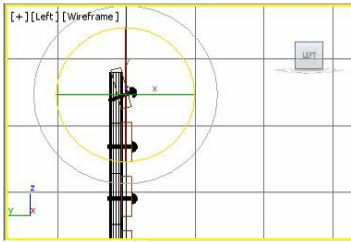

Figure 2-79 Rotating uppermost rivet
5. Select the uppermost rivet and choose the **Select and Rotate** tool. Now, rotate the uppermost rivet by using the outermost ring of the **Select and Rotate** tool in the counterclockwise direction until the value in the **X** spinner in the coordinate display becomes **-15**, refer to Figure 2-79. Next, align it using the **Select and Move** tool.